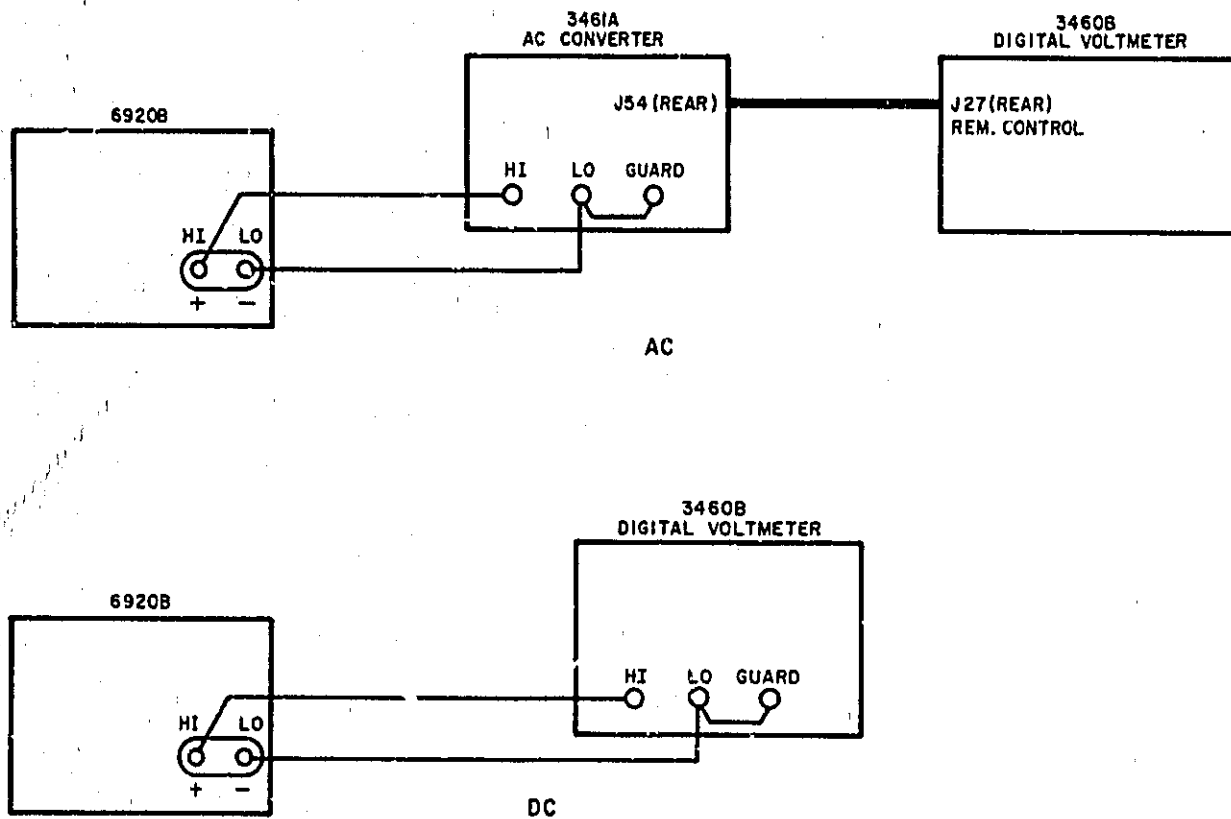

Figure 5-1. Checking Voltage Calibration
- Connect equipment as shown in Figure 5-1.
- Set output dial to (1)000.